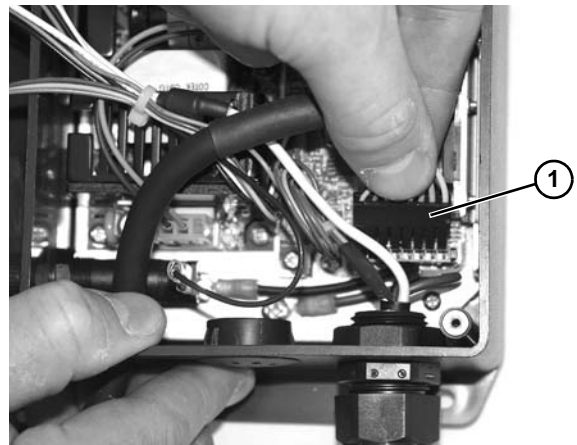

Figure 10
5. Remove wiring connector (Figure 10, item 1) from main board.